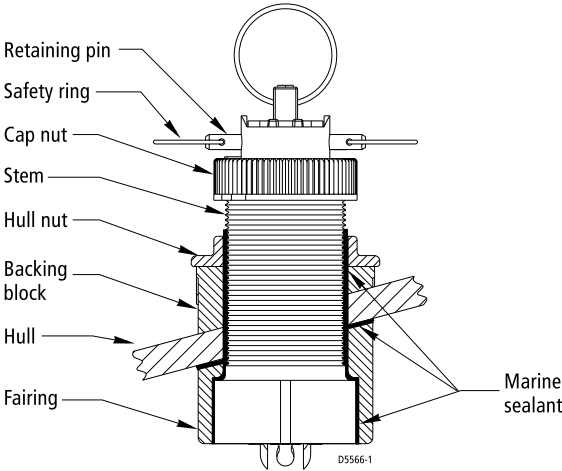

Figure 2-7: Seating
4. Remove one safety ring, the retaining pin, the cap nut, and the hull nut from the transducer (see *Figure 2-7*).
3. Apply a 1/16" (2mm) thick layer of marine sealant to the sides of the transducer that will contact the fairing, if used, and up the stem 1/4" (6mm) higher than the combined thickness of the fairing, hull, backing block, and hull nut. This will ensure there is marine sealant in the threads to seal the hull and hold the hull nut securely in place (see *Figure 2-7*).